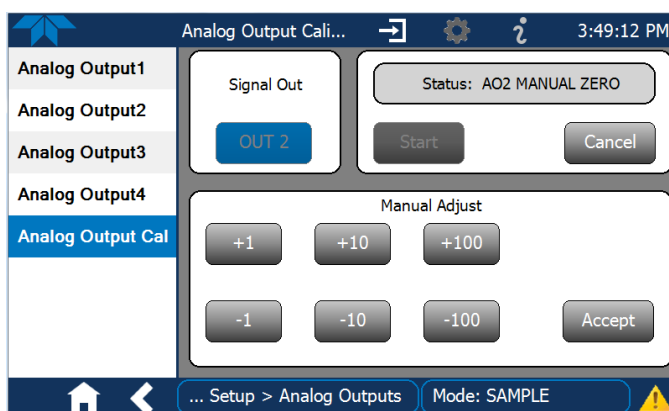
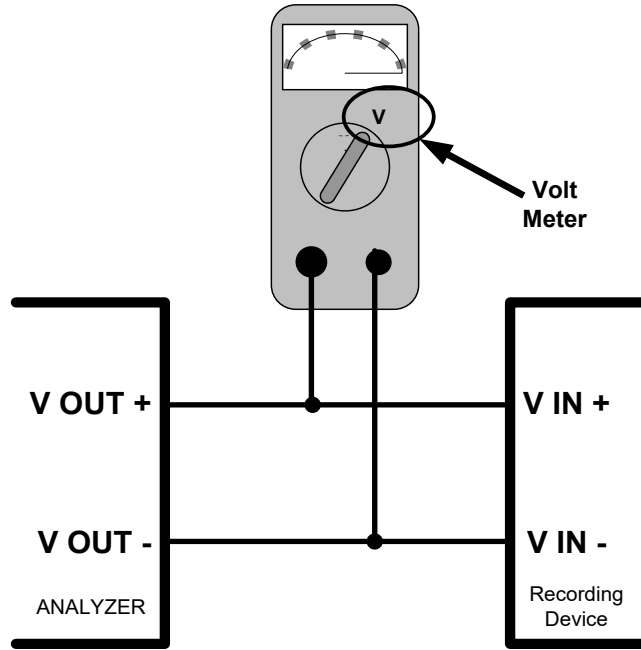

Figure 2-56. Analog Outputs Manual Calibration Screen (AOUT2 Example)
Figure 2-57. Setup for Checking / Calibrating DCV Analog Output Signal Levels
- MANUAL for individual calibration (Figure 2-56) of analog outputs where manual adjustments can be made (the only calibration type allowed when Current is selected for the Range). See Sections 2.5.8.1 and 2.5.8.2 .
It is possible to manually calibrate the voltages by using a voltmeter connected across the output terminals (Figure 2-57) and changing the output signal level in the Manual Adjust field of the Analog Outputs Calibration screen (Figure 2-56). Refer to Table 2-15 for voltage tolerances.